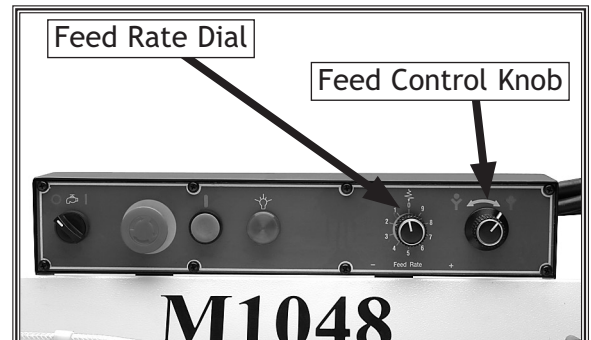

Figure 23. Feed rate controls.
2. Set the "Feed Rate Dial" in **Figure 23** to the desired feed rate—0 is the slowest, 9 is the fastest.